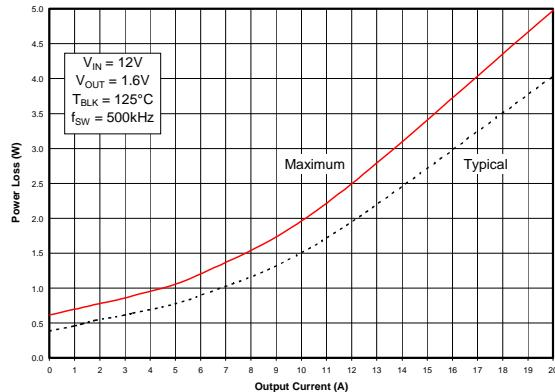
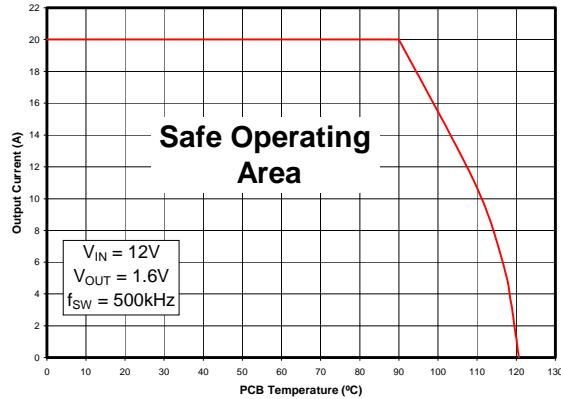
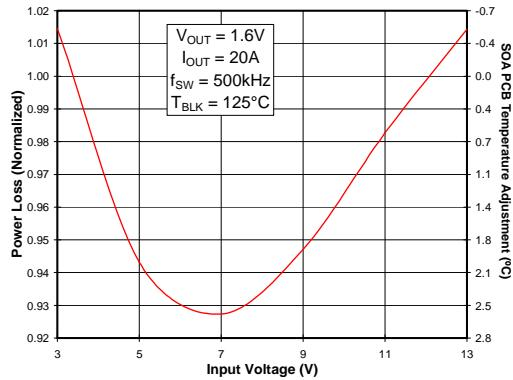

Fig 1. Power Loss vs. Current
Fig 2. Safe Operating Area (SOA) vs. T_{PCB} *
Fig 3. Normalized Power Loss vs. V_{IN}
To make adjustments to the power loss curves in Fig. 1, multiply the normalized value obtained from the curves in Figs. 3, 4, 5 or 6 by the value indicated on the power loss curve in Fig. 1. If multiple adjustments are required, multiply all of the normalized values together, then multiply that product by the value indicated on the power loss curve in Fig. 1. The resulting product is the final power loss based on all factors.
To make adjustments to the SOA curve in Fig. 2, determine the maximum allowed PCB temperature in Fig. 2 at the required operating current. Then, add the correction temperature from the normalized curves in Figs. 3, 4, 5 or 6 to find the final maximum allowable PCB temperature. When multiple adjustments are required, add all of the temperatures together, then add the sum to the PCB temperature indicated on the SOA graph to determine the final maximum allowable PCB temperature based on all factors.
- (Fig. 1) Maximum power loss = 5W
- (Fig. 3) Normalized power loss for input voltage ≈ 0.925
- (Fig. 2) SOA PCB Temperature = 90°C
- (Fig. 3) Normalized SOA PCB Temperature for input voltage $\approx 2.6^{\circ}C$